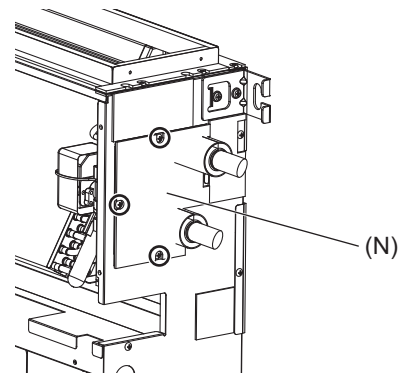

Fig.16
- (1) Remove the three fixing screws on the cover (N) to remove it. (Fig.16)